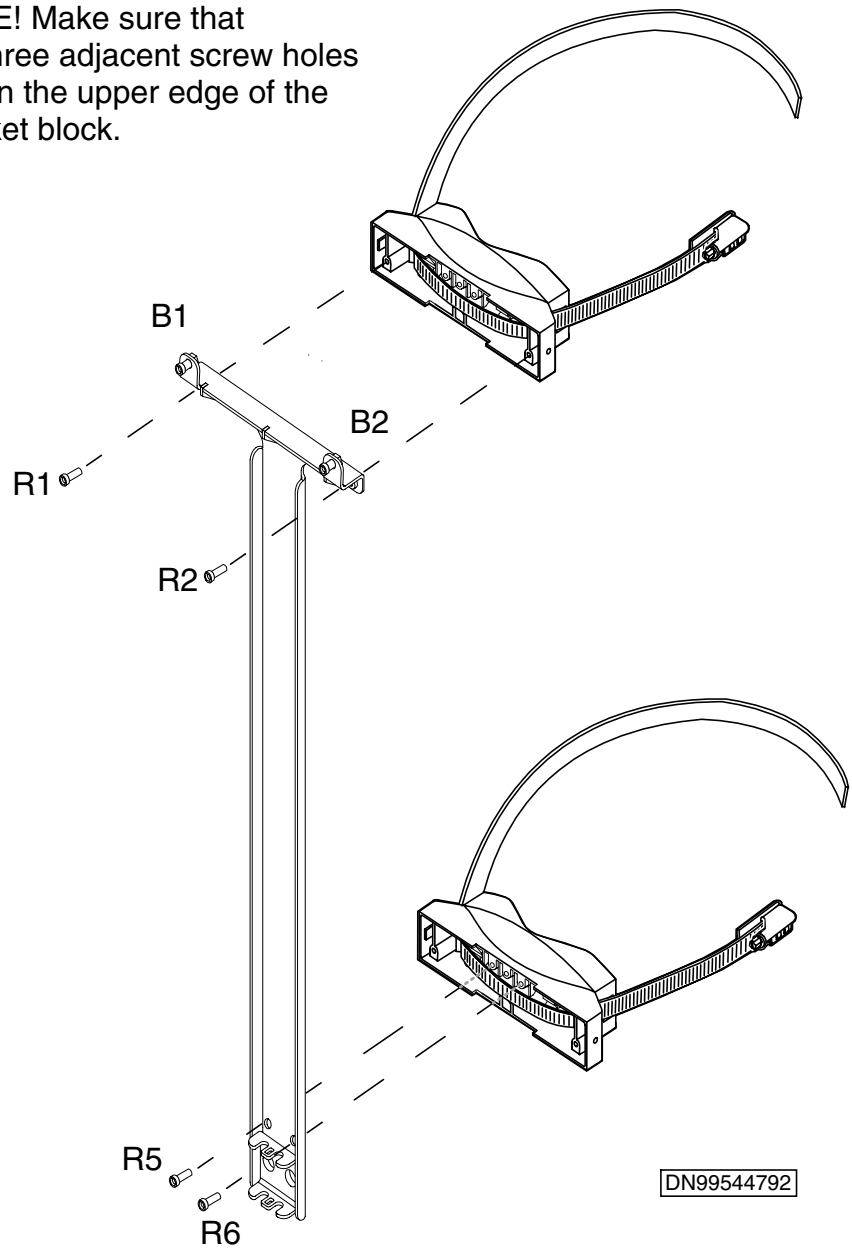

Figure 14. Attaching the mounting rack and the pole brackets
1. Fix the upper pole bracket to the mounting rack by screwing the M6 x 20 Allen screws through R1 and R2 into the upper front block, as shown in Figure 14. Make sure that the front block is the correct way up (the set of three adjacent screw holes should be on the upper edge of the bracket). Use a torque driver with a 4 mm Allen bit to tighten the screws to 5.5 Nm (4.06 lb ft).
2. Fix the lower pole bracket to the mounting rack by screwing the M6 x 20 Allen screws through R5 and R6 into the lower block, as shown in Figure 14. Make sure that the set of three adjacent screw holes is on the upper edge of the bracket. Use a torque driver with a 4 mm Allen bit to tighten the screws to 5.5 Nm (4.06 lb ft).